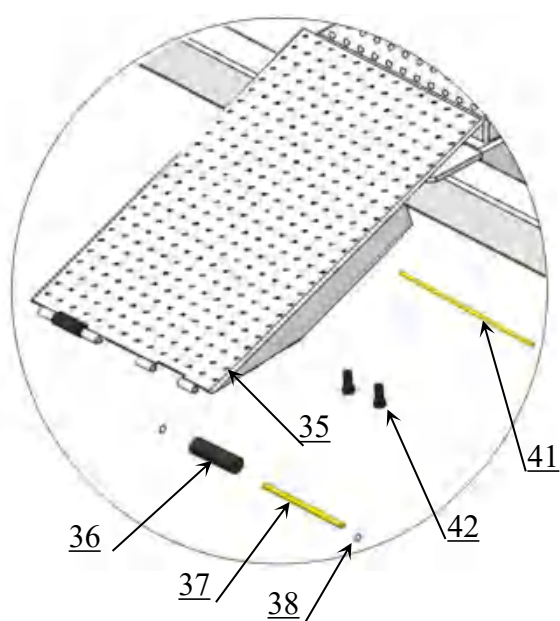
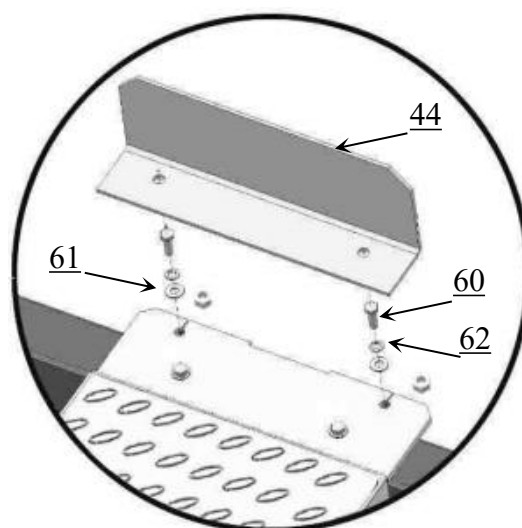

Fig.49
Fig. 50
P. Install Drive-in ramp, Tire stop plate. (See Fig. 49, Fig.50)